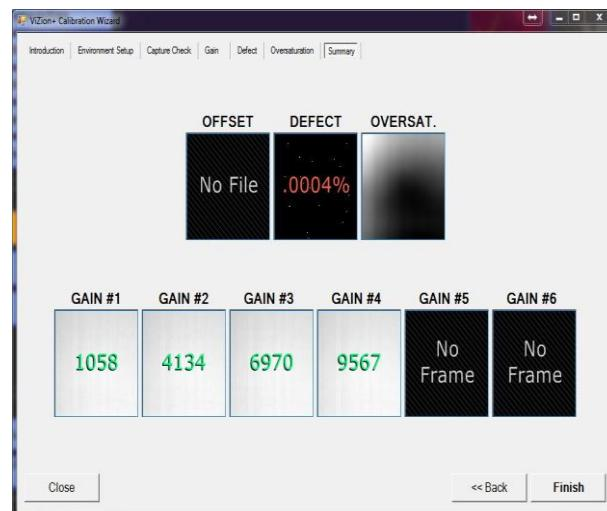

Figure 31: Summary Tab
- OpalUAI v2.3.4.21: The summary page will be completely blank this is normal. Figure 31
- OpalUAI v2.3.4.22+: The calibrated fields will be populated, the blank fields are normal; these fields were not needed during the calibration procedure. Figure 31